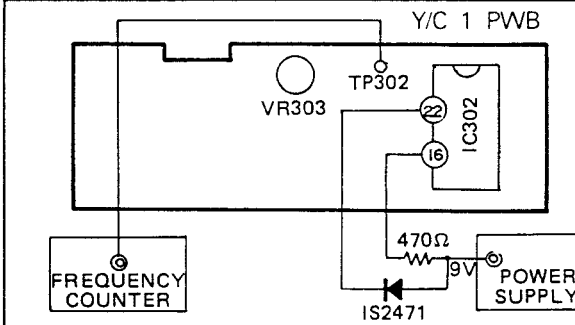

Fig. 3-2-8
b) Connection : Figure 3-2-8
c) Reference : Connect 470 Ω to IC302 Pin ② and Diode(IS2471) to IC302 Pin ⑩ and give 9V. Use and measure 1 : 1 Probe to TP302.